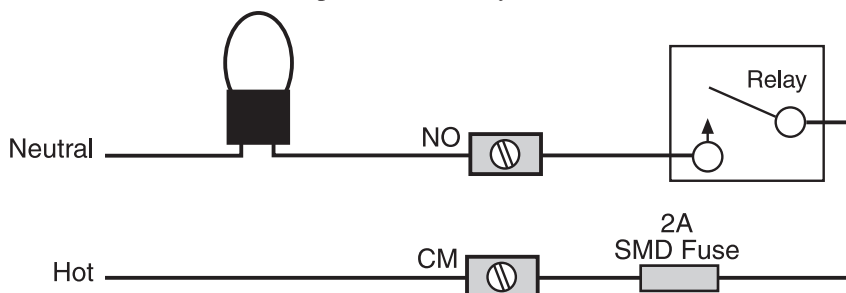

Figure 1
Some examples of uses for the set point relays are: Using the normally open position of a set point as a switch to turn on a light or siren when the set point is reached, using the normally closed position to cut out a motor when a set point is reached, or using the set point relays to change speeds on a motor. See figure 1 for an example hook up to a lamp. The normally open (NO) contact of a relay is used to turn devices on when a set point is reached, while the normally closed (NC) contact is used to turn a device off when the set point is reached. The common (COM) contact connects the power to the relay.